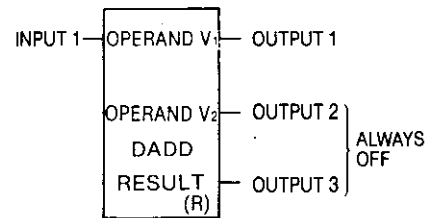

Fig. 5.30 DADD General Form
(2) Form
- Fig. 5.30 shows the form of double-precision addition (DADD).